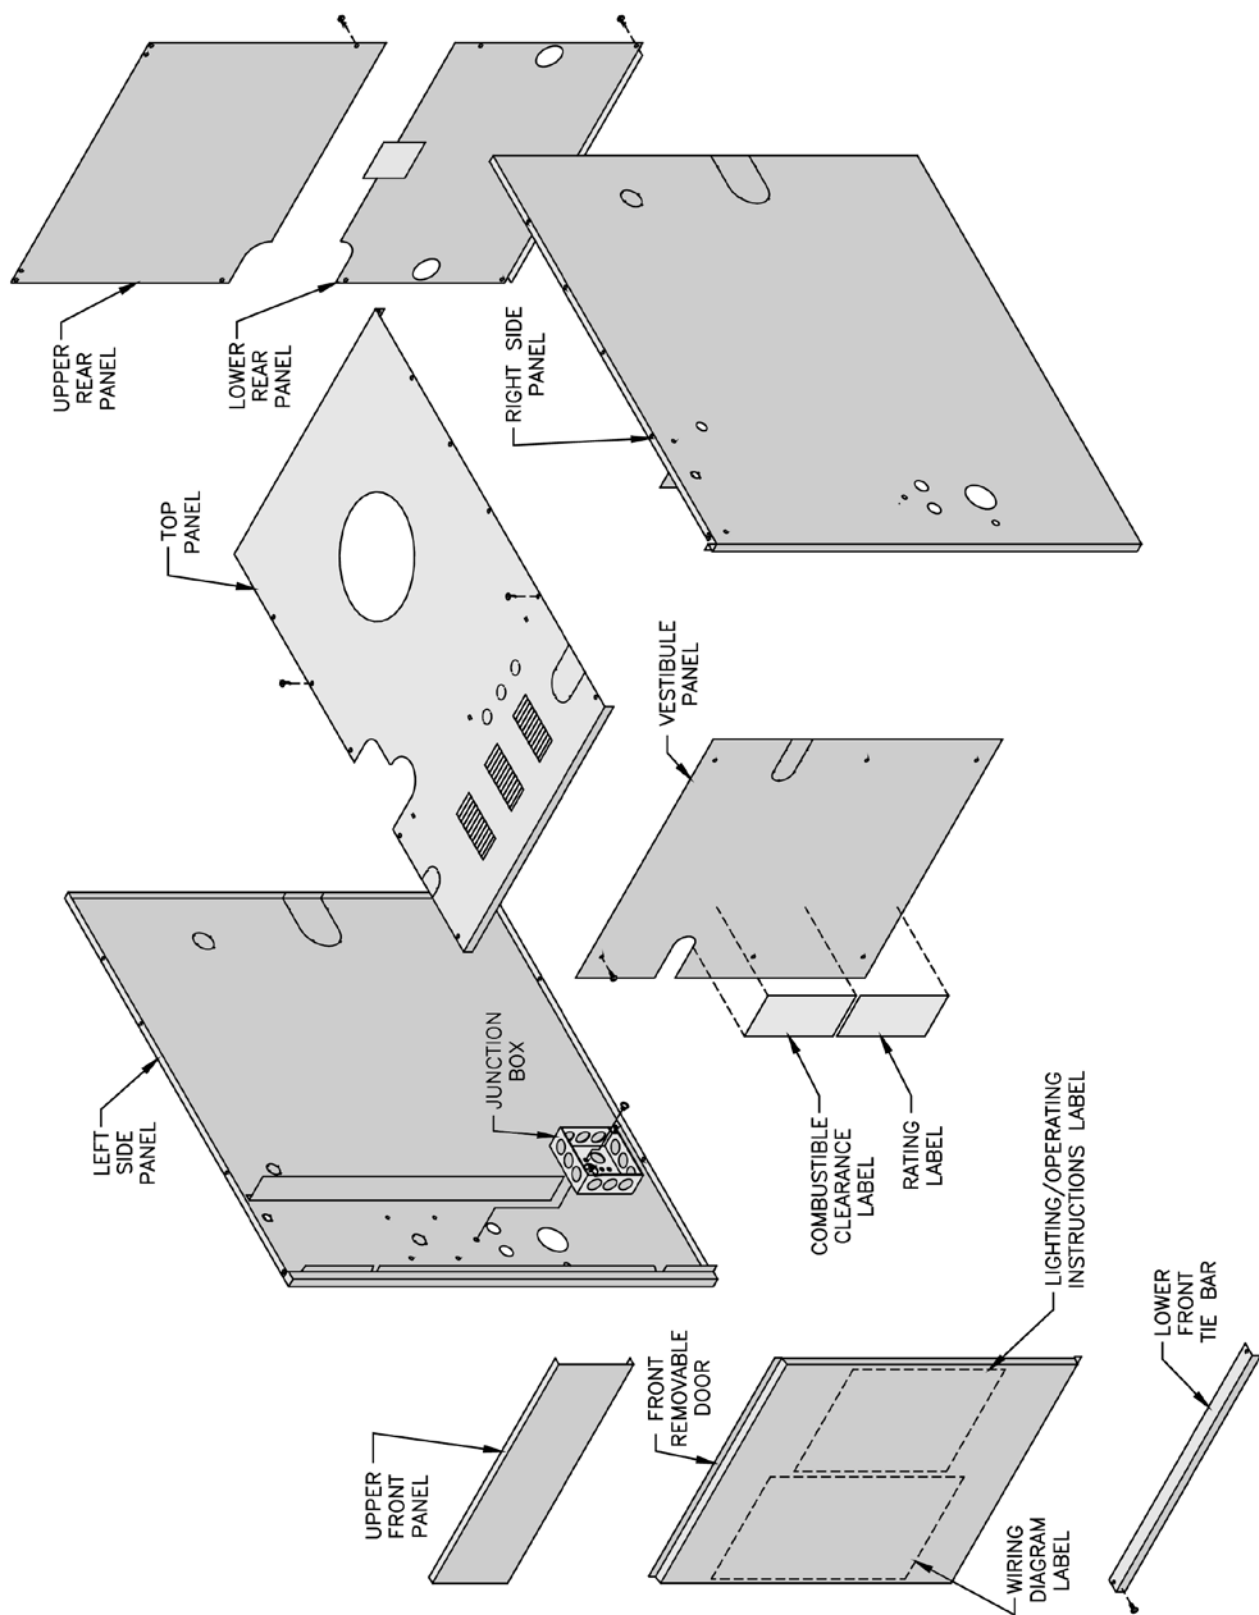

Figure 8: Jacket Assembly
P. Install Jacket. See Figure 8.
Q. Install Junction Box. See Figure 8. Attach junction box to inside of Left Side Panel with ¼" - 20 x ¼" lg. machine screw (located in Combination Boiler Parts and Control Carton).
- a. Attach Ignition Control Mounting Bracket to Jacket Vestibule Panel using two (2) #8 x 1/2" sheet metal screws.
- b. Attach Honeywell Ignition Module to Mounting Bracket using two (2) #8 x 1/2" sheet metal screws.
4. Mount Transformer (continuous circulation) or Control Center (intermittent circulation) to Junction Box. See Figure 8.